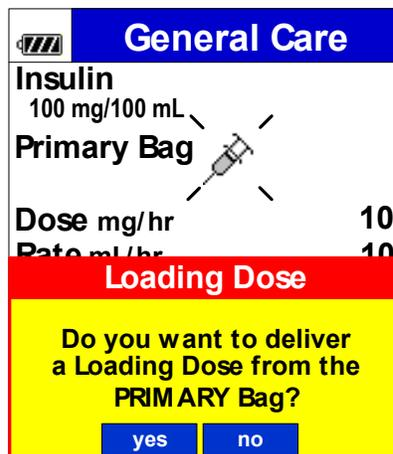

Figure 53. Loading Dose Dialog Box.
4. After all Primary Infusion values are entered, a Loading Dose dialog box displays: “Do you want to deliver a Loading Dose from the PRIMARY (or SECONDARY) bag (YES/NO)?” (See Figure 53.)